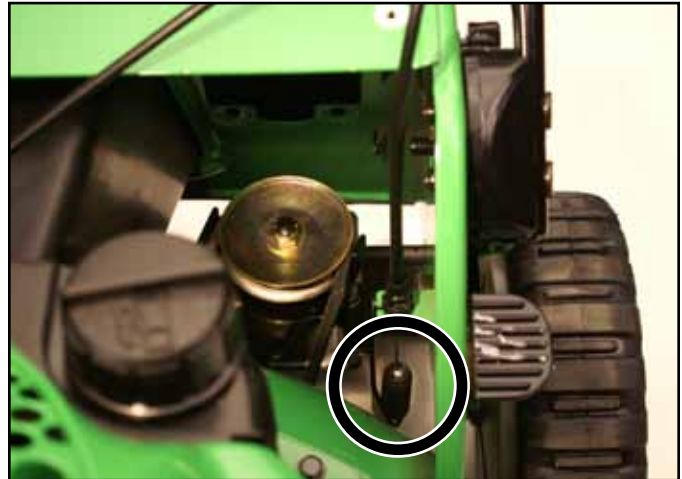

Fig 101
14. Unhook the traction cable from the transmission belt guide (Fig. 101 and Fig 102).